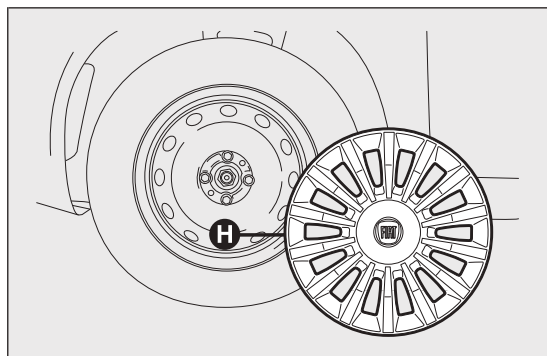

fig. 125
- ❑ remove hub cap H fig. 125 (versions with steel rims) or remove the hub cap (versions with alloy rims);